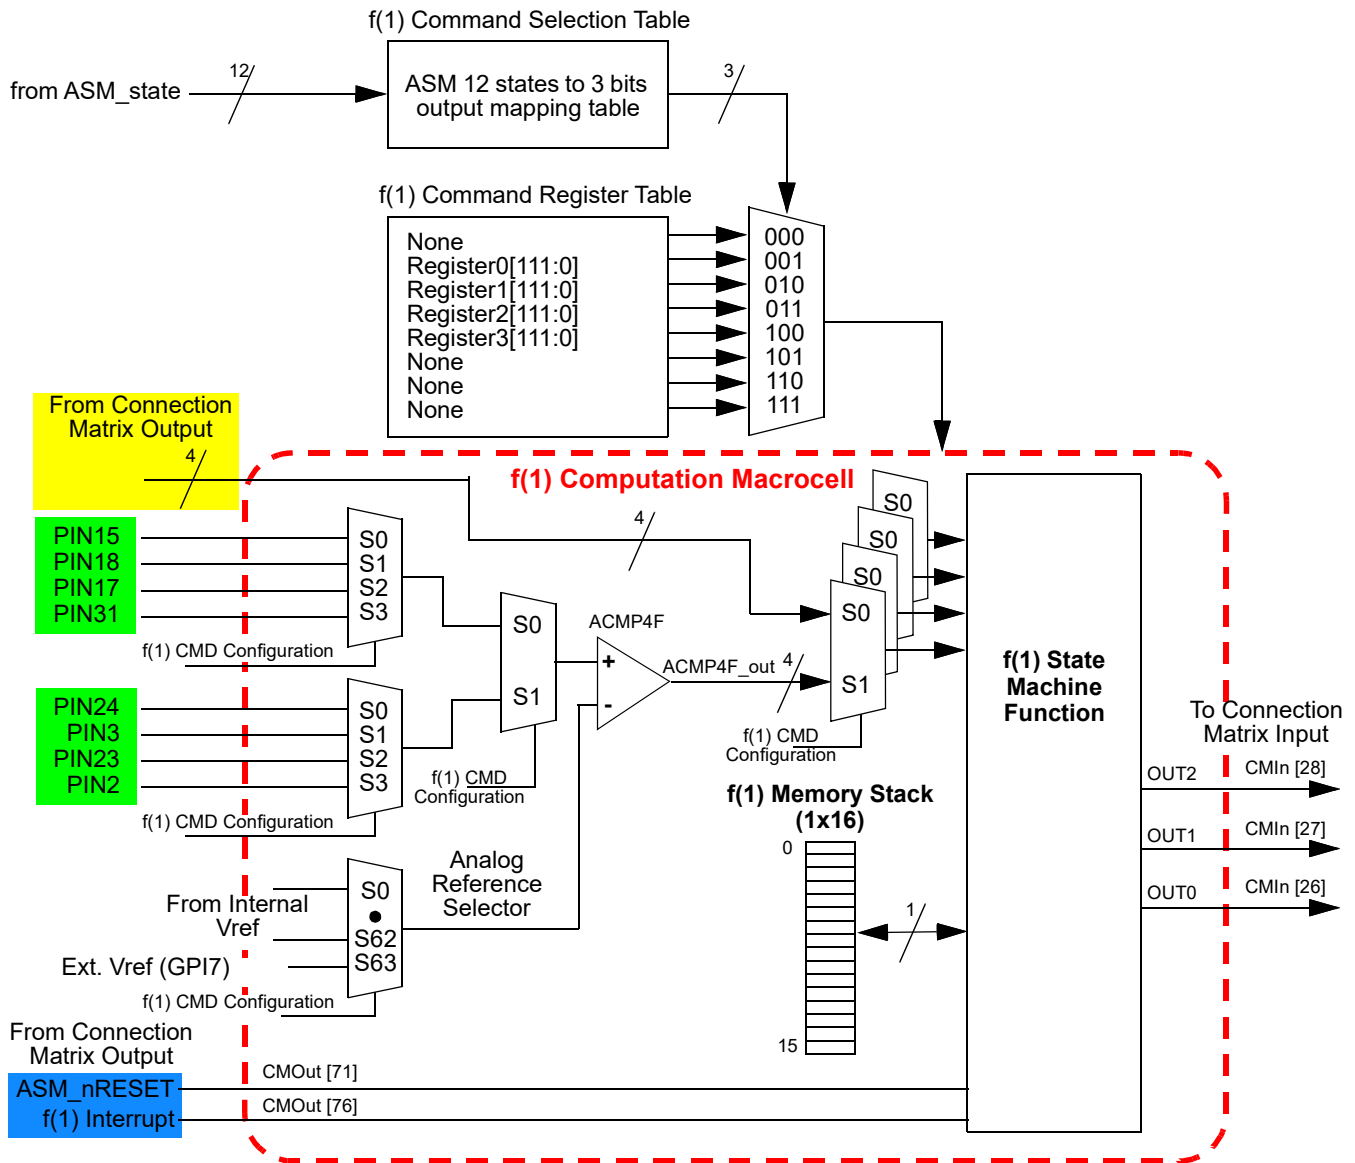

Figure 118: f(1) Computation Macrocell Input Signals
17.3 F(1) COMPUTATION MACROCELL INPUT SIGNALS
The f(1) Computation Macrocell has 6 digital input signals, ASM_nReset, f1_Interrupt, and four inputs from Connection Matrix outputs. An active signal on either of the first 2 inputs will immediately halt any command execution for the f(1) Computation Macrocell, and will immediately relinquish control back to the ASM macrocell. The ASM_nReset is a level sensitive signal, and active low. The f1_Interrupt is a level sensitive signal, and active high. These signals are shown in Figure 118, highlighted in blue. Also there are 4 digital inputs from the Connection Matrix, which can be routed to any Connection Matrix outputs from the f(1) Commands. These signals are shown on Figure 118, highlighted in yellow.